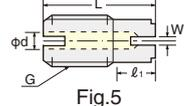

Fig.5
Please refer P.52 Fig.5 for adjust screw for J-TYPE Nut
- None, -J : Symbol of adjust screw used with J type nut (Fig.5)